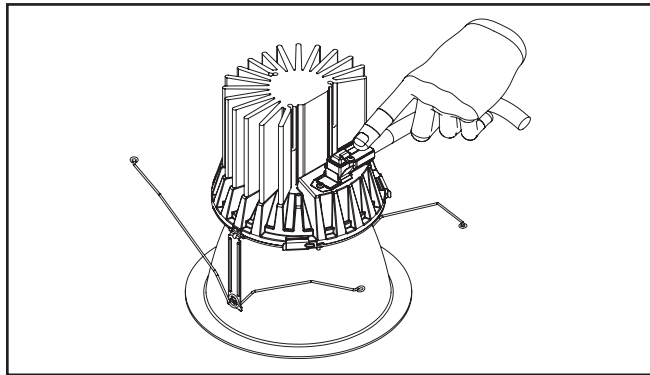

Figure 7
6. Properly align the connector as shown in (Figure 7.). Plug in the luminaire quick disconnect on the module.